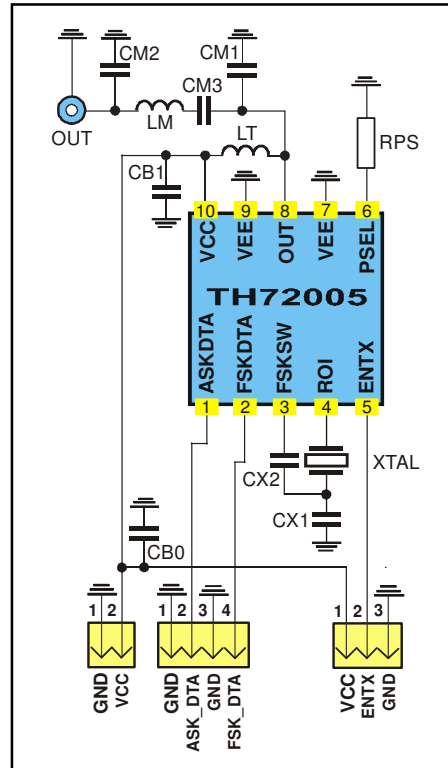

Fig. 18: Test circuit for FSK and ASK with 50 Ω matching network
typical values at $T_A = 23\text{ °C}$ and $V_{CC} = 3\text{ V}$; test circuit shown in Fig. 18, $f_c = 315\text{ MHz}$
- Data according to test circuit in Fig. 18
6.1 Test circuit component list to Fig. 18